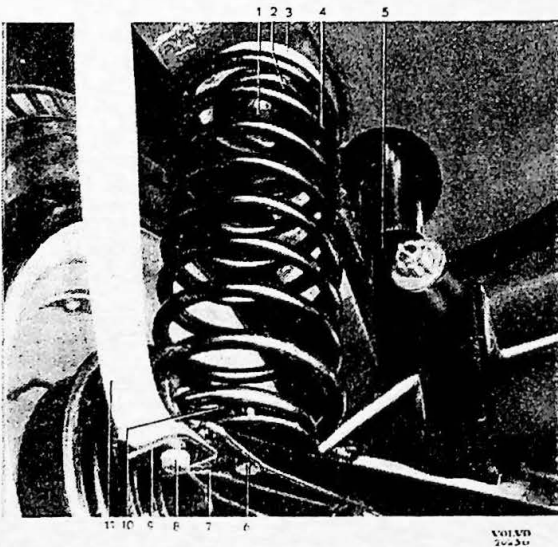

Fig. 3.
3. Disconnect the shock absorbers (5 Fig. 3) from the attachment in the rear axle housing.
4. Disconnect the shock absorber band (11) from its attachment on the axle support arm (7).